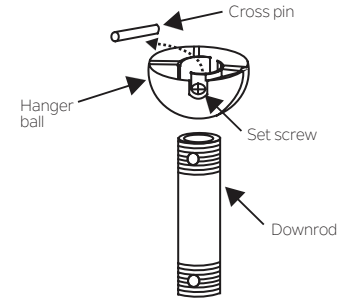

Fig. 7
**Step 5.** Remove the hanger ball from the downrod assembly by loosening the set screw, unscrewing and removing the cross pin and unscrewing the ball off the rod. (Fig.7)